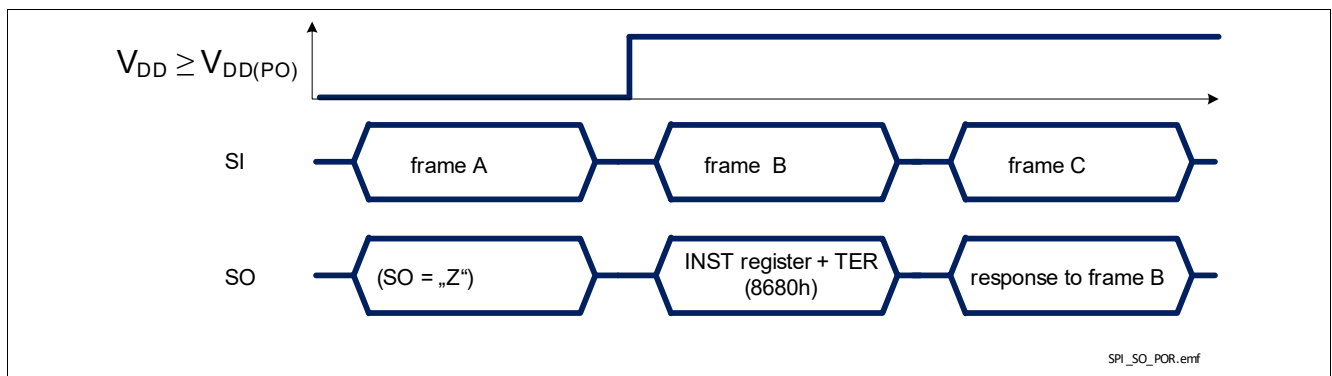

Figure 41 TLE75242-ESH response after coming out of Power-On reset at V_{DD}
- when TLE75242-ESH logic supply comes out of Power-On reset condition or after a Software Reset, as shown in **Figure 41**